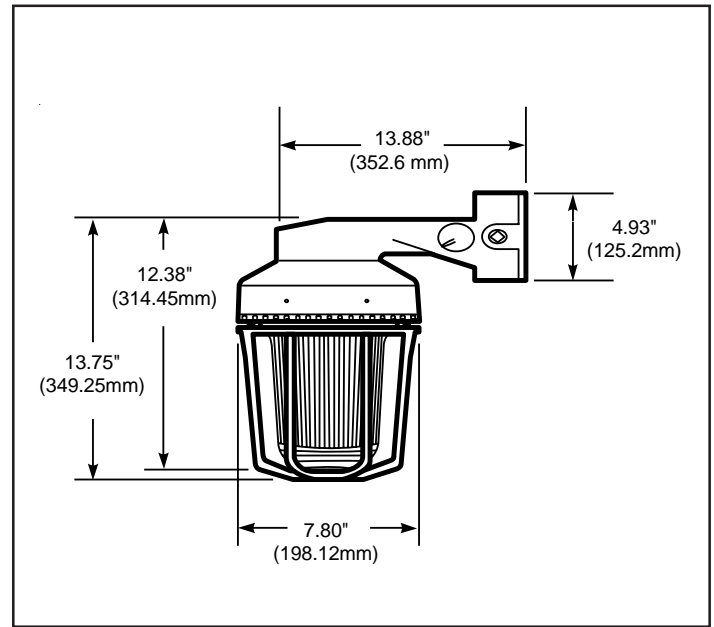

Figure 3. Detail of Bracket Mounting
- c. **Bracket Mount Models** (Figures 3 and 5): Unscrew the globe assembly from the wall bracket. Install the mounting bracket using appropriate hardware (not supplied) for the mounting surface. Pull the field wiring through the mounting bracket. Proceed to step 2.